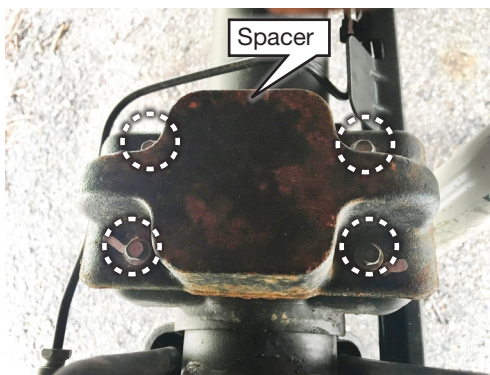

Fig. 7
4. For Trail Boss/Sierra AT4 models, unfasten 4 bolts and remove spacer (Fig. 7).